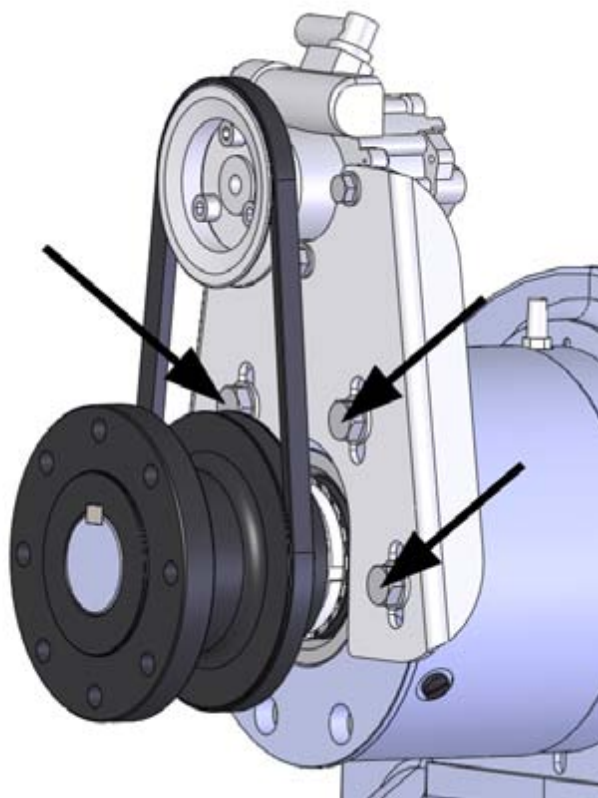

Figure 51. Hydraulic pump bracket fastening screws
The bracket is attached to the front surface of the bearing housing with four screws, two on each side of the pump (figure 51).
2. Set the bracket against the front surface of the bearing housing and tighten the fastening screws (figure 51) loosely.